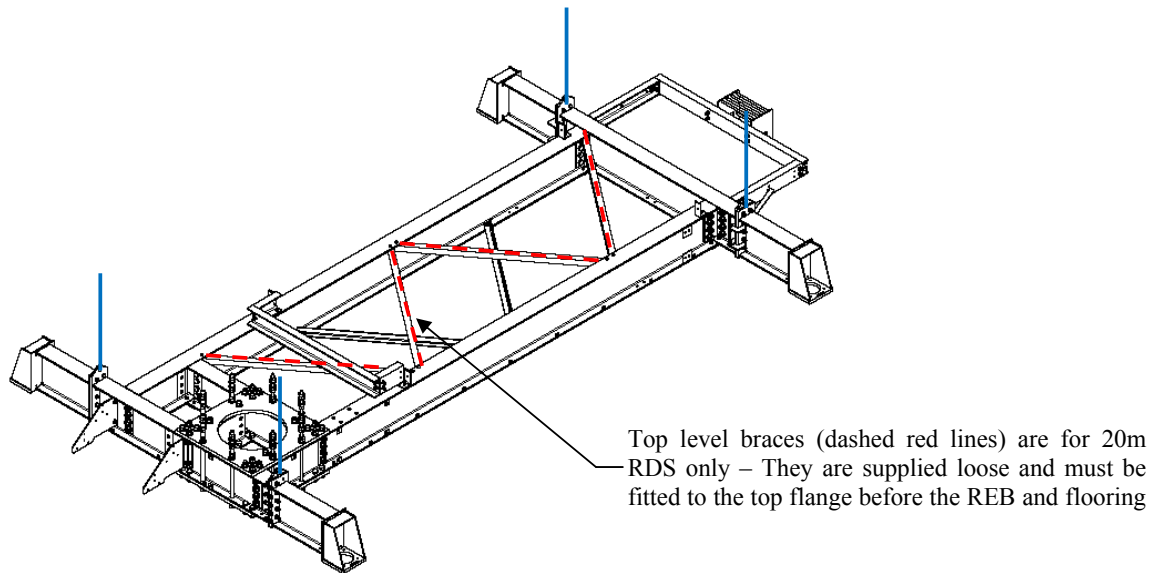

Figure 2 – Standard Frame – Fully assembled frame with slings (in blue colour) attached to lifting lugs for lifting.
- Unfold the hinged arms (for standard grillage only) and fully assemble the frame, referring to the GA drawings. Tighten the bolt on the splice plates in the main arms. Torque settings for tightening standard nuts and bolts are not given. Nuts are to be tightened with a standard podger spanner until the nut can be tightened no further. The fully assembled frame with attached lifting slings is shown in Figure 2